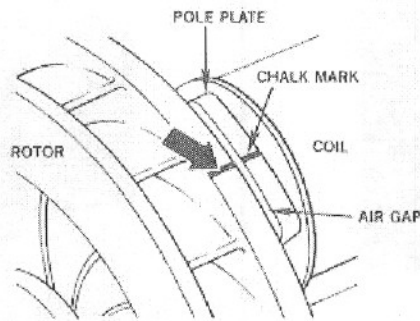

Figure 4
Mark one (1) pole plate and (1) position adjacent to each other on the rotor with colored chalk. Figure 4